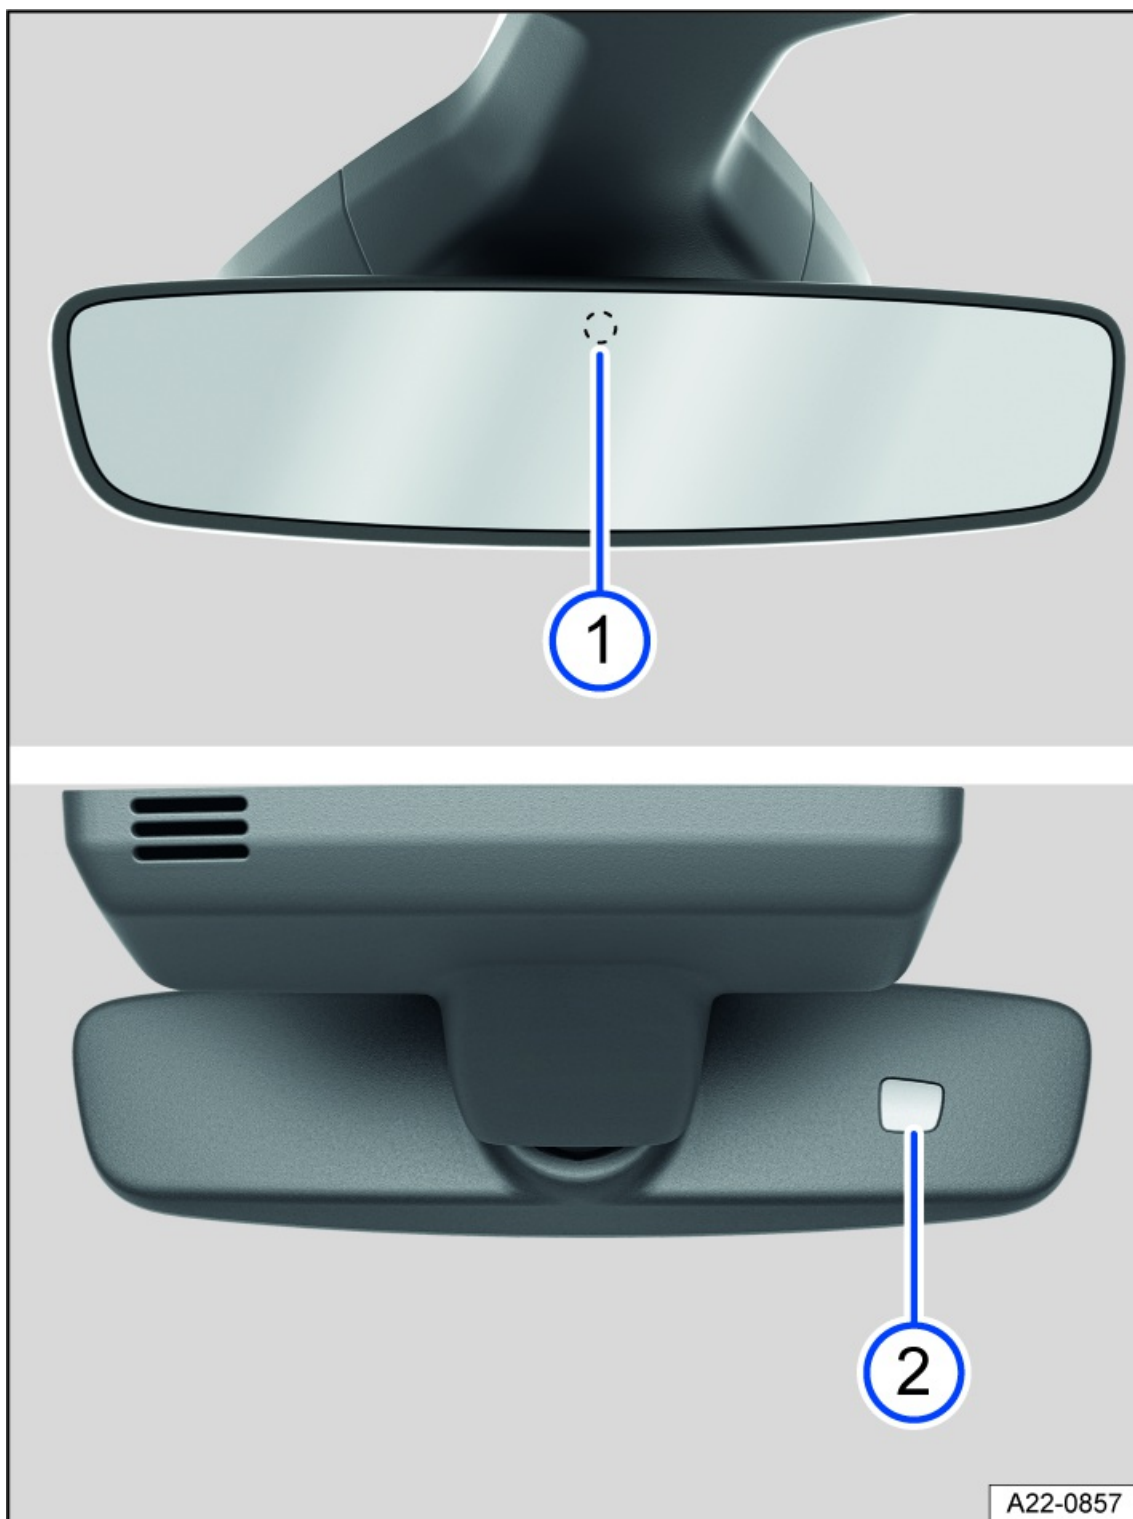

Fig. 85 On the windshield: automatic dimming interior rearview mirror.
When the ignition is on, the sensors measure the amount of light entering from the rear fig. 85 ① and from the front ②.